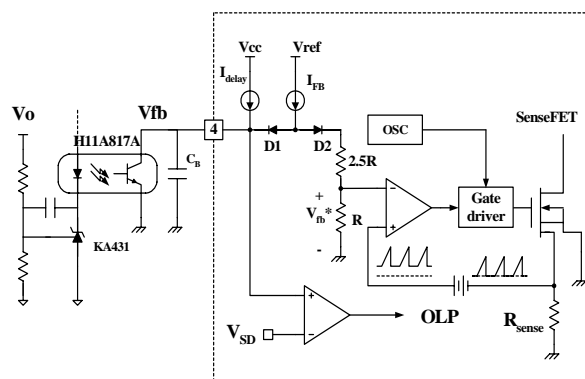

Figure 11. Pulse Width Modulation (PWM) Circuit
**3. Feedback Control:** The FSCQ-Series employs current mode control, as shown in Figure 11. An opto-coupler (such as Fairchild's H11A817A) and shunt regulator (such as Fairchild's KA431) are typically used to implement the feedback network. Comparing the feedback voltage with the voltage across the  $R_{sense}$  resistor plus an offset voltage makes it possible to control the switching duty cycle. When the reference pin voltage of the KA431 exceeds the internal reference voltage of 2.5V, the H11A817A LED current increases, pulling down the feedback voltage and reducing the duty cycle. This event typically happens when the input voltage is increased or the output load is decreased.
**3.1 Pulse-by-Pulse Current Limit:** Because current mode control is employed, the peak current through the SenseFET is limited by the inverting input of the PWM comparator ( $V_{fb}^*$ ) as shown in Figure 11. The feedback current ( $I_{FB}$ ) and internal resistors are designed so that the maximum cathode voltage of diode D2 is about 2.8V, which occurs when all  $I_{FB}$  flows through the internal resistors. Since D1 is blocked when the feedback voltage ( $V_{fb}$ ) exceeds 2.8V, the maximum voltage of the cathode of D2 is clamped at this voltage, thus clamping  $V_{fb}^*$ . Therefore, the peak value of the current through the SenseFET is limited.